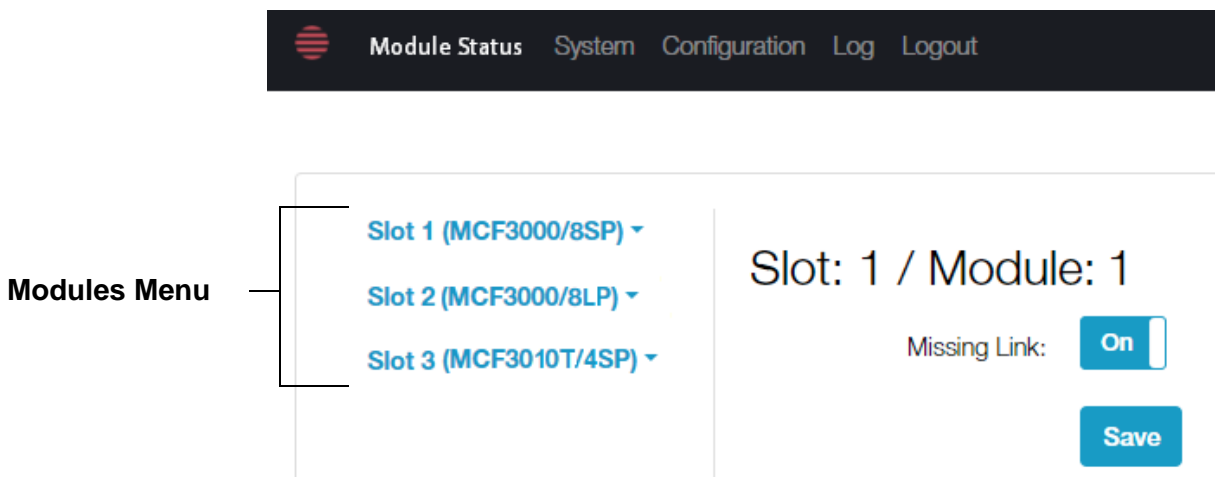

Figure 12. Modules Menu
The Module Status selection in the main menu displays an additional menu called the Modules menu, shown in Figure 12. You use the menu to perform management tasks on individual modules, channels, or ports.
1. To verify the media converter modules, click **Module Status** in the main menu and examine the Modules menu. It should display the correct number of media converter modules in the chassis. The chassis in Figure 12 on page 40 has three modules. Empty module slots display the Not Present message in Figure 15.